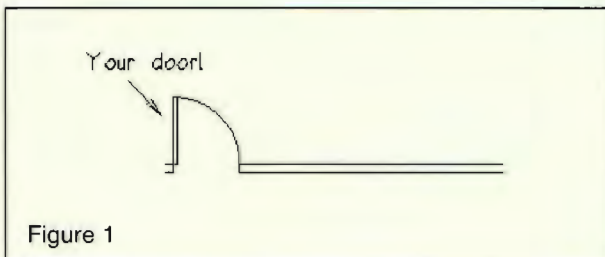
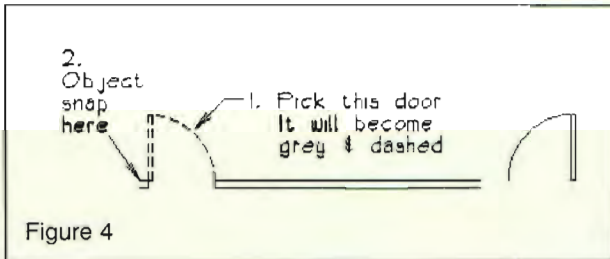

Figure 1
Figure 4
In order to follow our examples, create a door like the one below, as shown in Figure 1. Make sure it is 4" from the left corner of the wall, as you will use this as an object snap point later (reference step 2 in Figure 4).
6. Pick anywhere on the door with the left hand swing, as shown by step 1 in Figure 4. It will become gray and dashed.
1. Object snap to the point indicated by step 2 in Figure 4. Since you created this first door 4" from the wall corner, it is easy to use as an insertion point. The door will disappear off your drawing and reappear in the first symbol box.